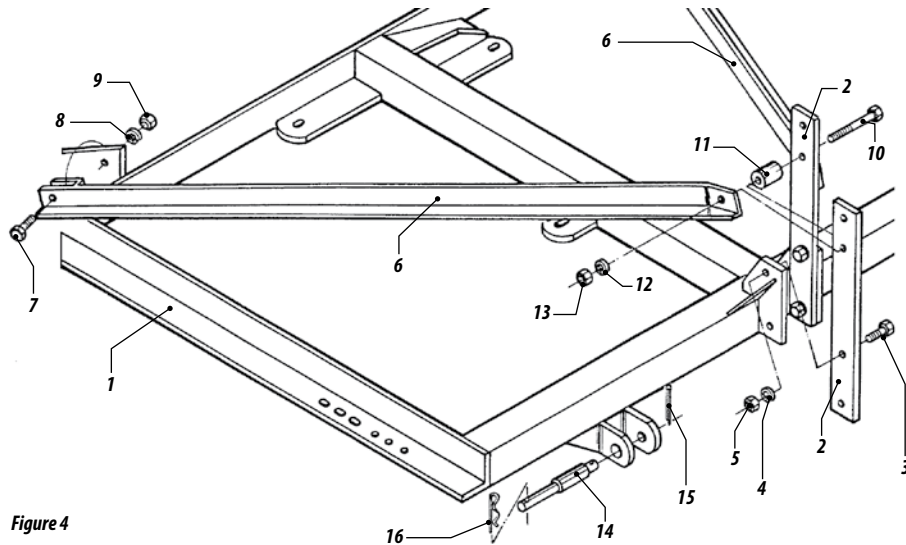

Figure 4
01 - Assemble the frame, item 1 Figure 4, the coupling plates, item 2 through screws item 3, washer item 4 and nut item 5.